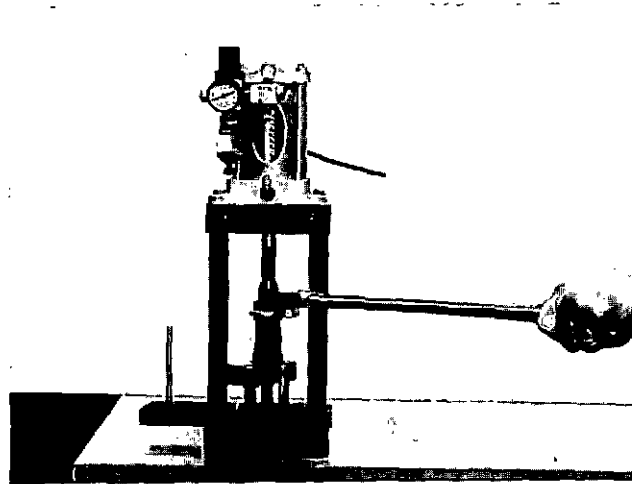

Fig. 3-4, (F60309). Loosen the flanged injector cup retainer
3. Use the cup retainer wrench, Tool No. ST-995, to loosen the cup retainer, Fig. 3-4.